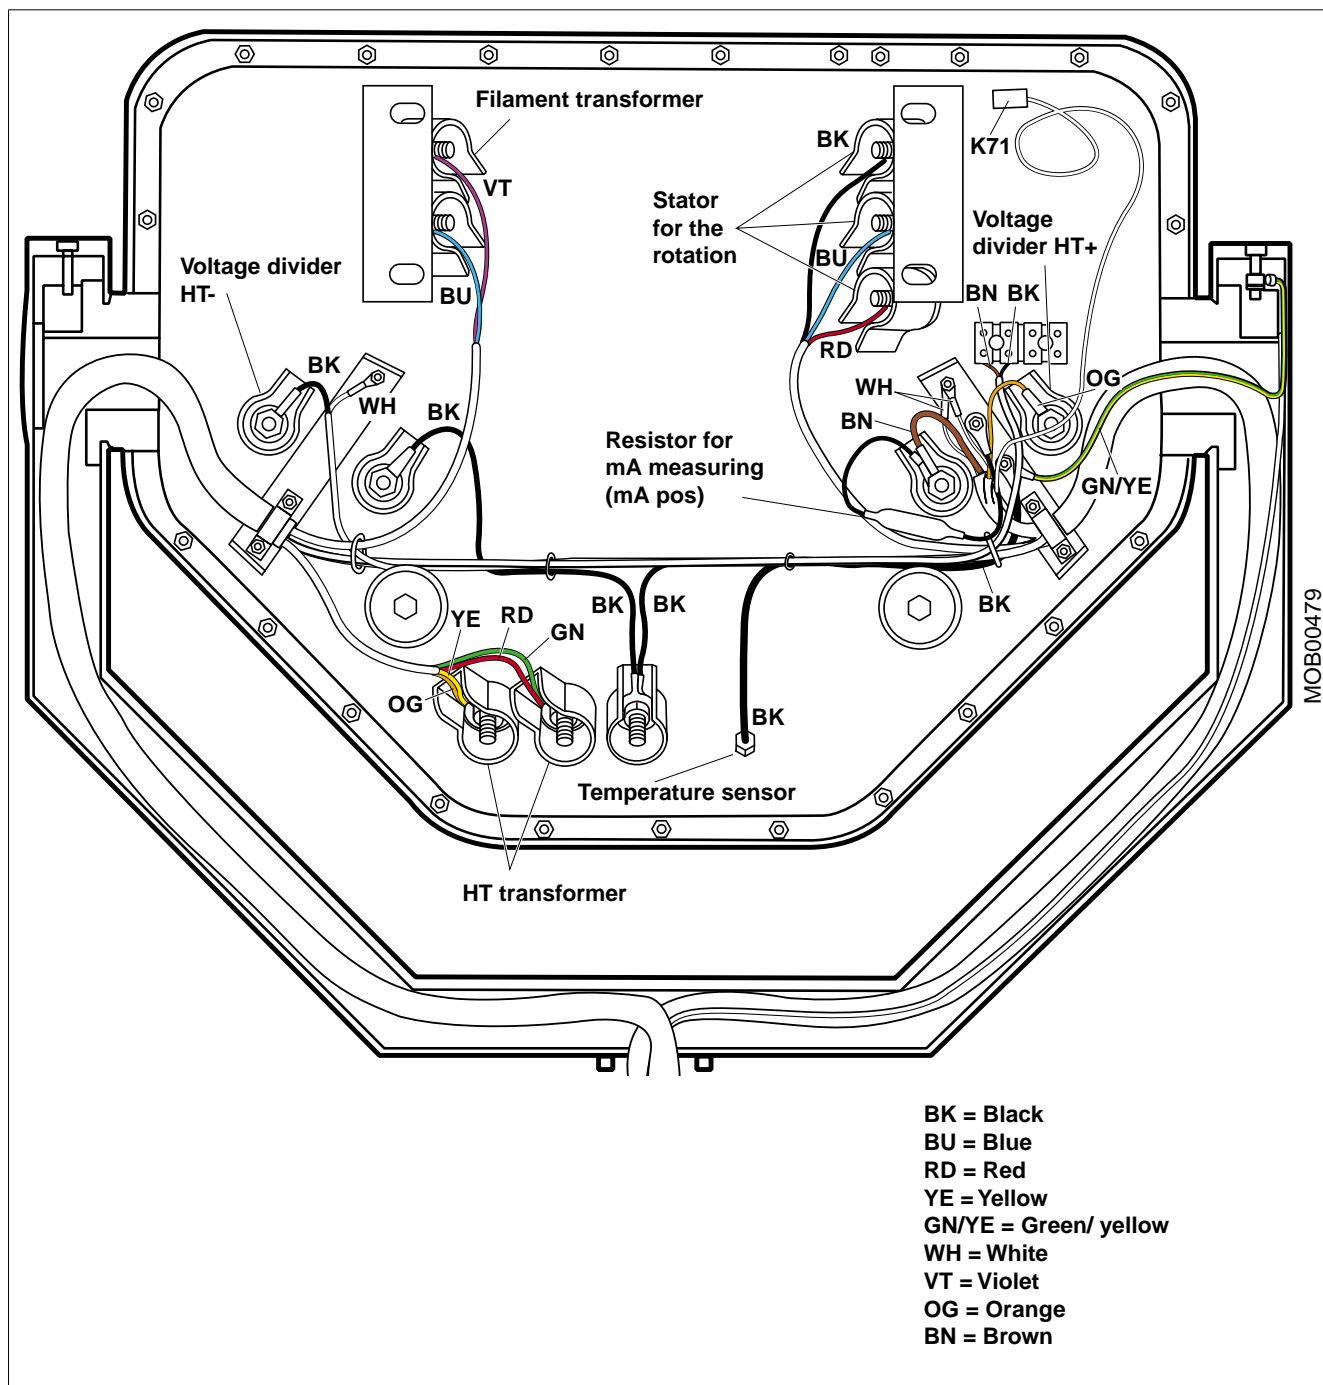

Fig. 23
- Connect all wires on the single tank according to (Fig. 23).